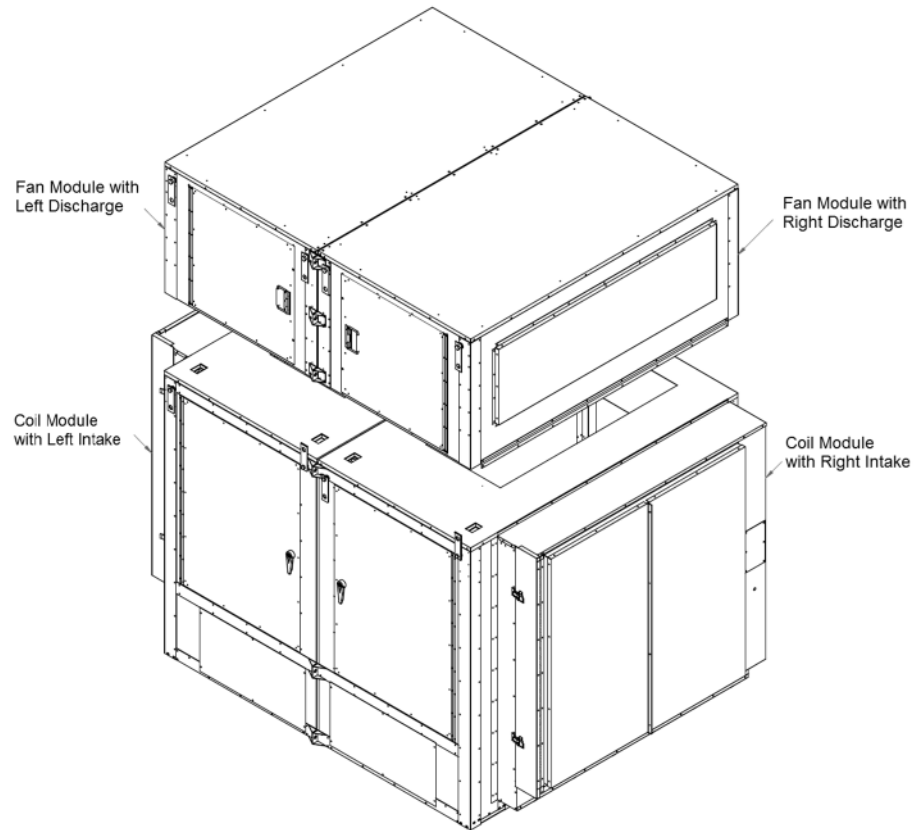

Figure 8: Dual Unit Without Splices and Before Being Bolted Together
2. Move the coil section to the required location. See Figure 8.